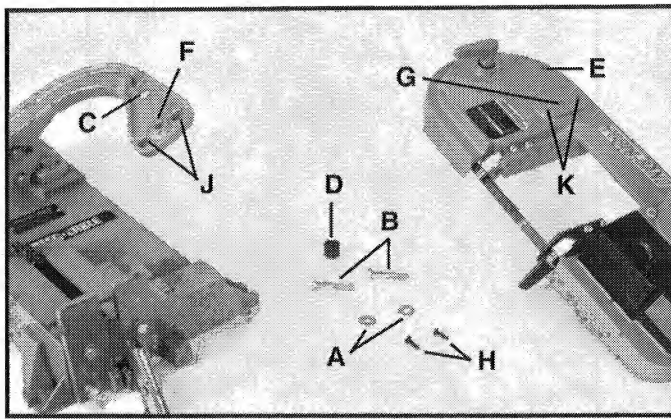

Fig. 7
2. Assemble a flat washer (A) Fig. 7, to each of two bolts (B).
3. Insert one of the bolt and washer assemblies (from Step 2), through hole (C), and spacer (D), and thread into band saw hole (E). Finger tighten bolt.
4. Insert second bolt and washer assembly through hole (F) and thread into bandsaw hole (G). Finger tighten bolt.
5. Insert two screws (H) Fig. 7, (these are the two screws that were removed in Step 1), through holes (J) and thread into holes (K).